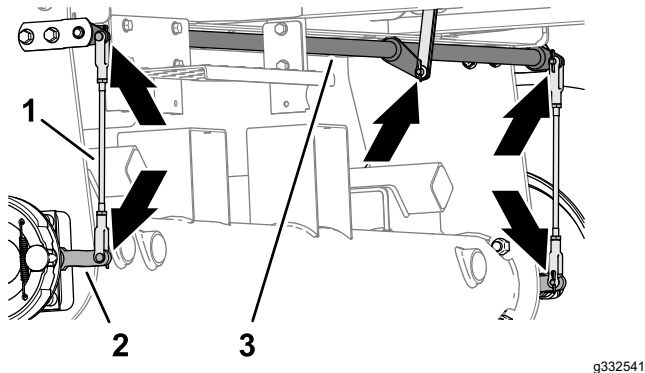

Figure 82
1. Inspect the left and right brake-rod assemblies (Figure 82) for damage and wear.
2. Inspect the brake pivot shaft (Figure 82) for damage and wear.